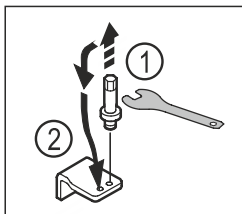

Fig. 14
- ▶ Unscrew the bolt of the lower swap bearing block with an Allen key AF5. Fig. 14 (1)
- ▶ Insert the bolt on the opposite side. Fig. 14 (2)